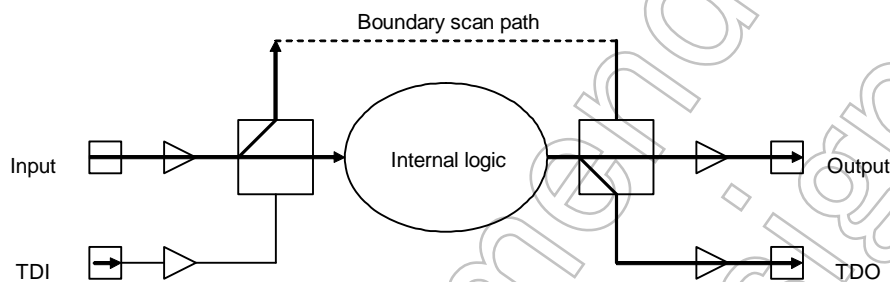

Fig. 20.9 Flow of Data While SAMPLE Is Selected
- The SAMPLE instruction is used to monitor the I/O pad of an IC. While SAMPLE is monitoring the I/O pads, the internal logic is not disconnected from the I/O pins of an IC. This instruction is executed in the Capture-DR state. A main function of SAMPLE is to read values of the I/O pins of an IC at the rising edge of TCK during normal functional operation. Fig. 20-9 shows the flow of data while the SAMPLE instruction is selected.